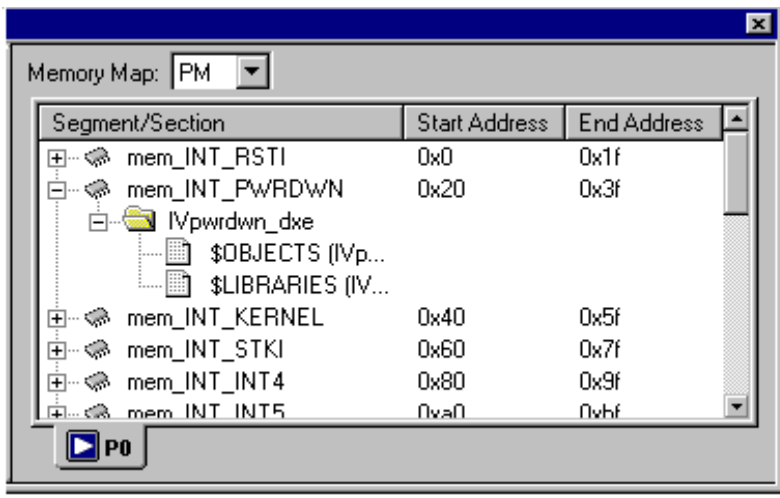

Figure 4-16. Expert Linker Window – Memory Map
- **Memory Map Tree** – Displays the memory map in a tree representation (see Figure 4-16 on page 4-22)